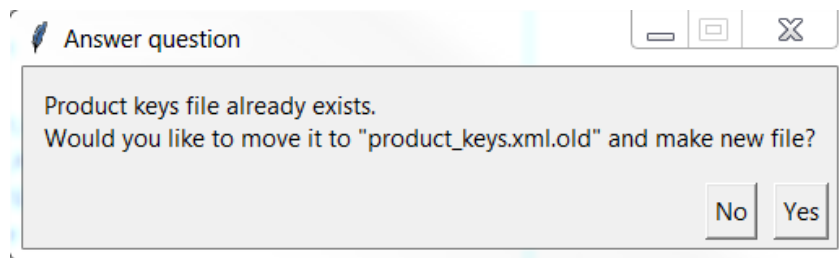

Figure 58: move existing configuration to *product_keys.xml.old* file
- To each public key index a private key is assigned. This private key is then used during image signature generation. If *product_keys.xml* file already exists then the user is prompted to create a new *product_keys.xml* file with new keys and save old keys in *product_keys.xml.old* file (Figure 58).